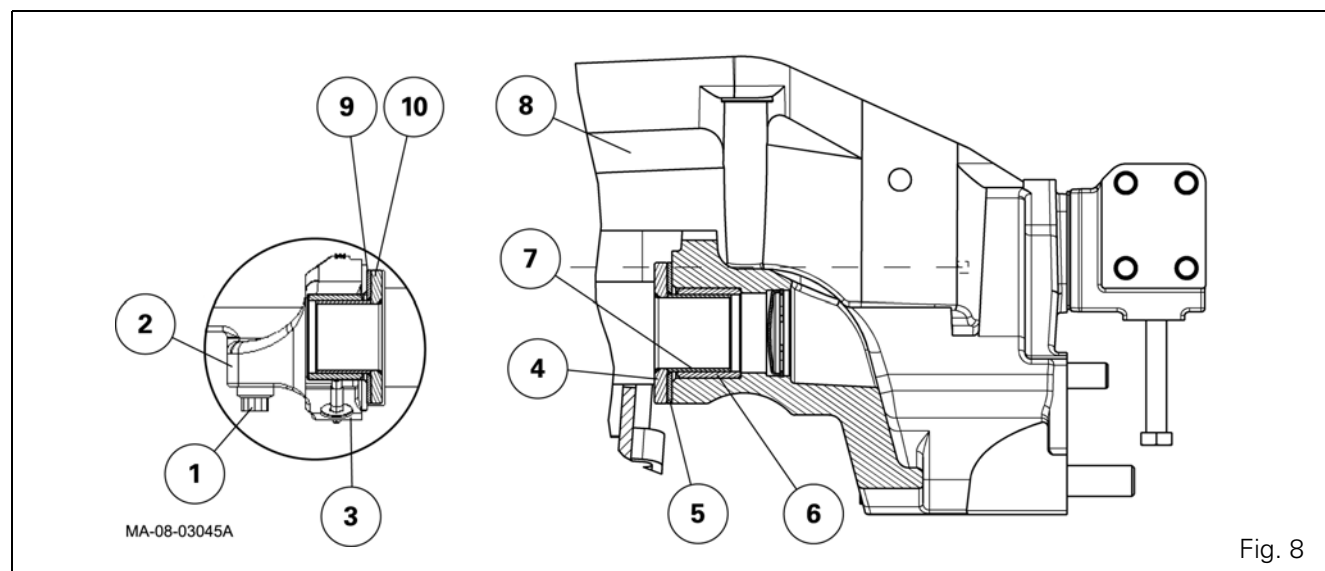

Fig. 8
- 70.** Remove screws (1) and grease nipple (3). Remove front bearing (2) and washers (9)(10) (Fig. 8).
- 71.** Remove the front axle by releasing it from the front frame (8) (Fig. 8).
- 73.** Sling and engage the axle support in the bearing of the front frame (8) after previously turning the chamfer of the washers (5) (6) towards the axle (Fig. 8).
- 74.** Position the washers (9)(10) (with the chamfer turned towards the axle) (Fig. 8). Fit the front bearing (2) to reduce to a minimum the clearance between the washers and the axle.
- 75.** Lightly smear screws (1) with Loctite 270 or equivalent (Fig. 8) and tighten them to a torque of 520 - 640 Nm. Remove the sling.
- 76.** Refit the ram (2) on the axle (12).
- 78.** Fit the grease nipples (Fig. 8).
- 79.** Grease the two bearings (Fig. 8).
- 80.** Fit the nuts and screws (14) to a torque of 260 Nm.
- 81.** Fit the screws (11) to couple the rods (5) and the ball joints (6) and tighten the nuts to a torque of 70 Nm.